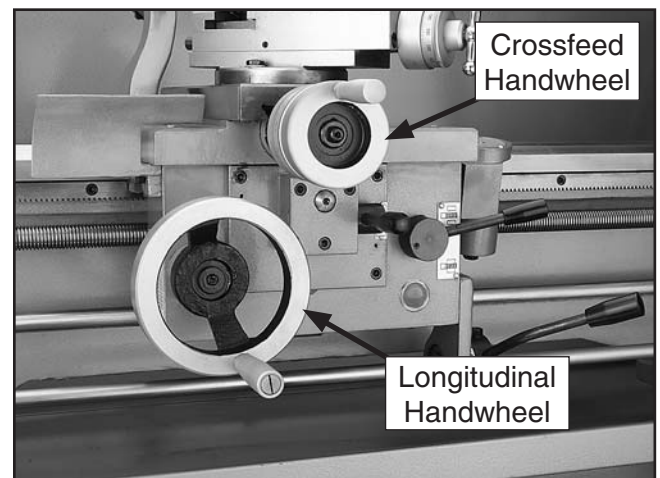

Figure 7. Longitudinal and crossfeed handle locations.
8. Thread the tailstock, longitudinal (**Figure 7**), and crossfeed handles into the handwheels.